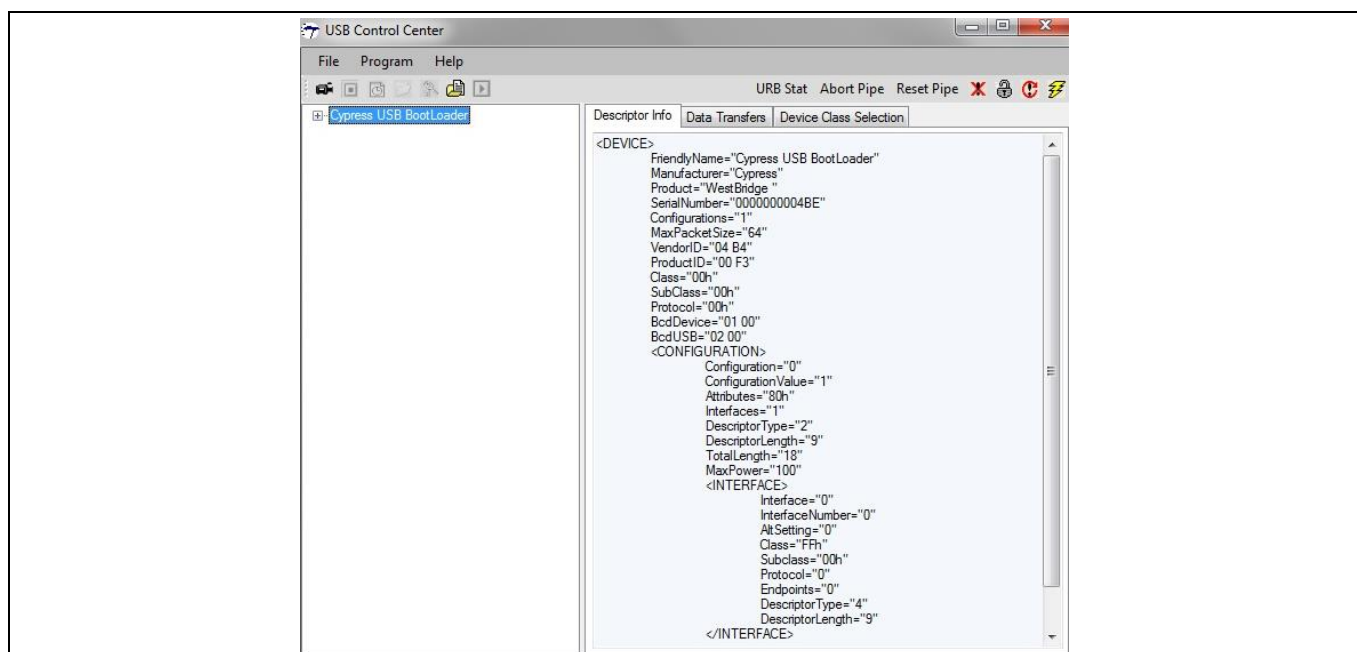

Figure 30 Cypress USB BootLoader enumeration in Control Center
3. When connected to a USB Host, the FX3 device enumerates in the Control Center as “Cypress USB BootLoader”, as shown in Figure 30.